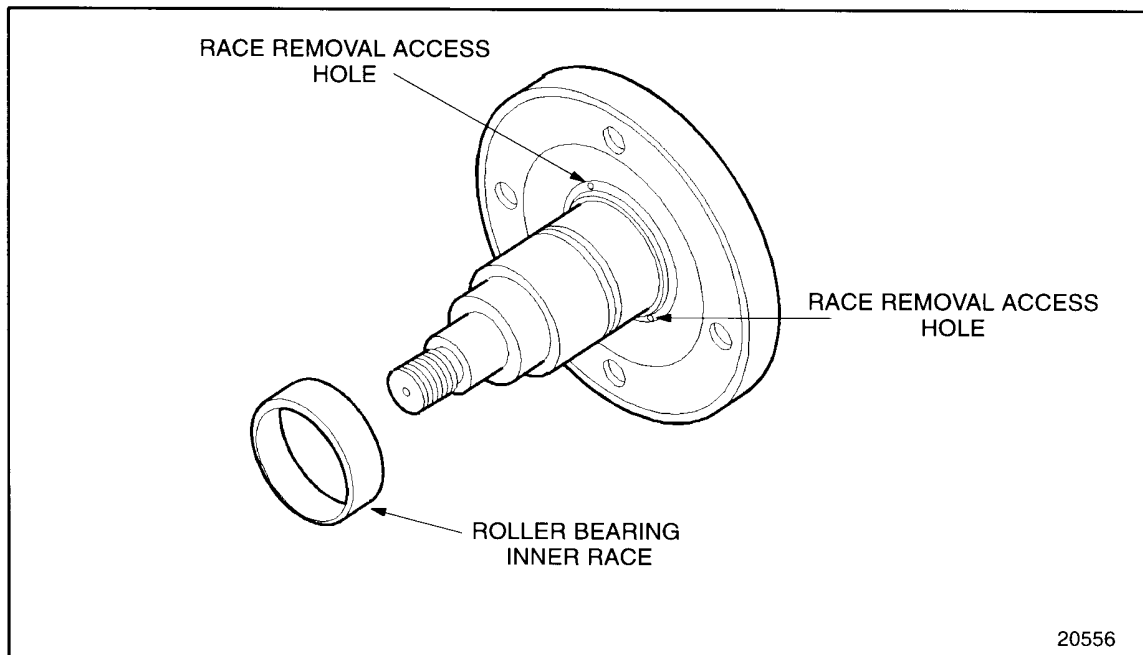

Figure 10-19 Bearing Inner Race Removal
21. Using a punch and hammer, work through the two access holes to drive the roller bearing inner race from the air compressor drive shaft. See Figure 10-19.